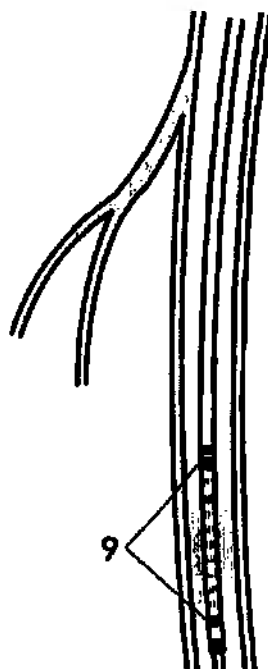

Fig. 5
1. Under fluoroscopy, pull the delivery system back until there is no slack in the delivery system and the radiopaque markers on the stent are aligned with the lesion (**Figure 5**).